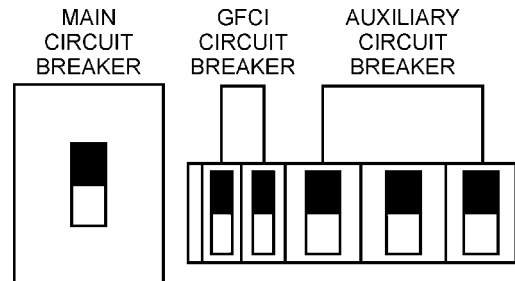

Figure 53. Main, Aux. and GFCI Circuit Breakers (ON)
17. Place the **main**, **GFCI**, and **aux.** circuit breakers in the **ON** position (Figure 53).